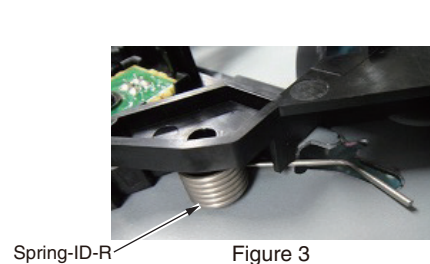

Figure 3
Note! Be careful to install the Spring-ID-R and Holder-head, when assembling Guide-ID-R ⑪ .(Refer to the following figure 3 and 4)